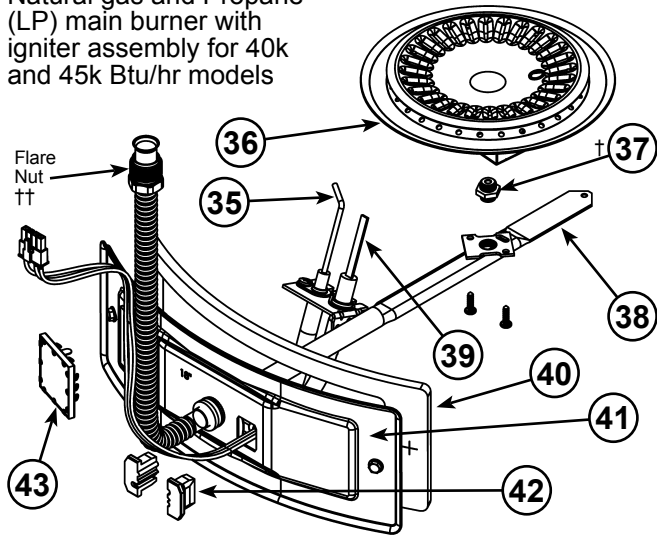
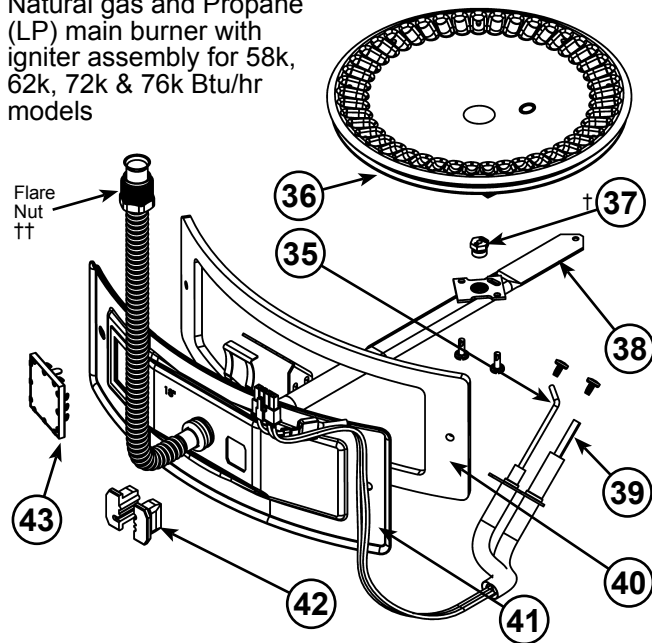

Figure 54
Figure 55
- 15 Manifold Door Assembly (behind outer door) (see Figure 3 & Figure 4) (see also **Figure 54 & Figure 55**)
- 35 Flame Sensor Rod (see Figure 3 & Figure 4) (see also **Figure 54 & Figure 55**)
- 36 Sheet Metal Burner (see Figure 3 & Figure 4) (see also **Figure 54 & Figure 55**)
- 37 Gas Orifice (see Figure 3 & Figure 4) (see also **Figure 54 & Figure 55**)
- 38 Gas Manifold (see Figure 3 & Figure 4) (see also **Figure 54 & Figure 55**)
- 39 Hot-Surface Igniter (see Figure 3 & Figure 4) (see also **Figure 54 & Figure 55**)
- 40 Manifold Door Gasket (see Figure 3 & Figure 4) (see also **Figure 54 & Figure 55**)
- 41 Manifold Door (see Figure 3 & Figure 4) (see also **Figure 54 & Figure 55**)
- 42 Two Piece Grommet With Clip (see Figure 3 & Figure 4) (see also **Figure 54 & Figure 55**)
- 43 Viewport (see Figure 3 & Figure 4) (see also **Figure 54 & Figure 55**)